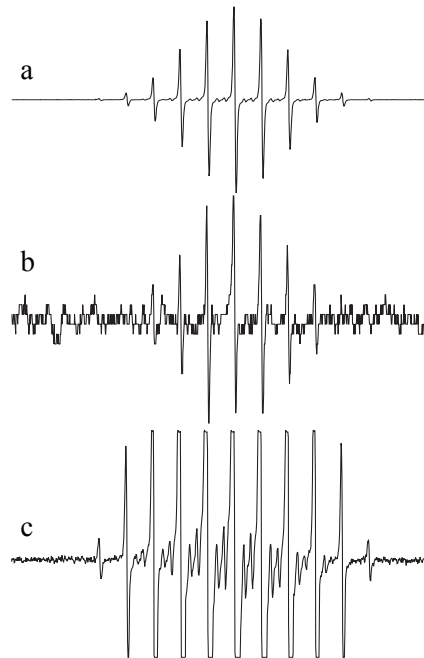

Figure 8-2 The effect of using gain settings that are either (a) optimal, (b) too low, or (c) too high on an EPR spectrum.
- **Optimize the receiver gain.** You need to have sufficient receiver gain in order to see all the details in your spectrum. Figure 8-2 shows the results of insufficient as well as excessive receiver gain. If the receiver gain is too low you will see the effect of digitization in the spectrum (spectrum b), whereas at high gain the signals will clip due to an overload in the signal channel (spectrum c). A good way to optimize your receiver gain is either to use the interactive spectrometer control method described in Section 5.3 or use the acquisition tools described in Section 5.5.1.